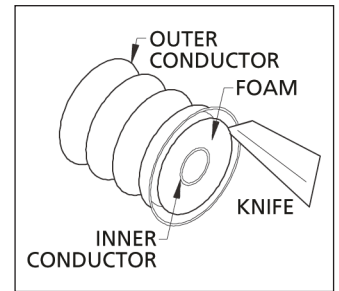
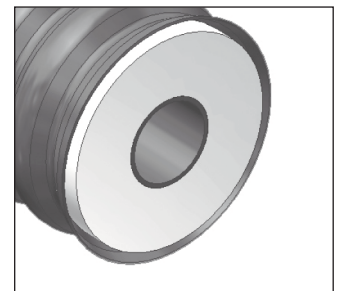

Figure 4 Preparing the flare
Figure 5 Symmetrical Foam
Step 3 Properly prepare the flare for connector installation. Using a knife (or similar tool) separate the foam fully from the outer conductor [Figure 4] and verify that the foam is symmetrical around the center conductor [Figure 5].